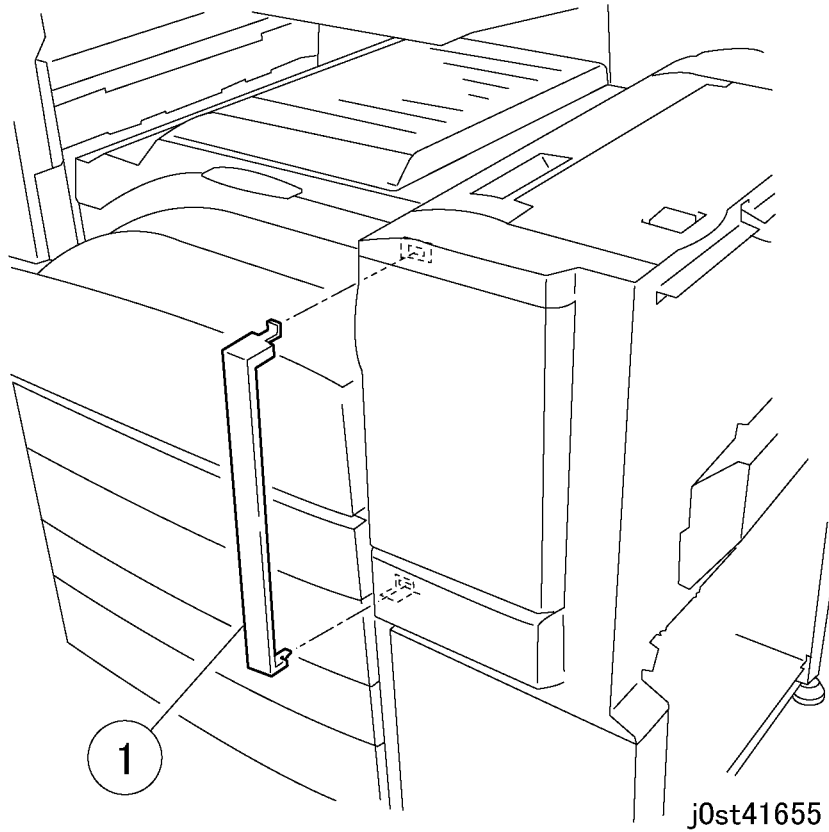

Figure 2 Removing the cover
2. Remove the cover. (Figure 2)